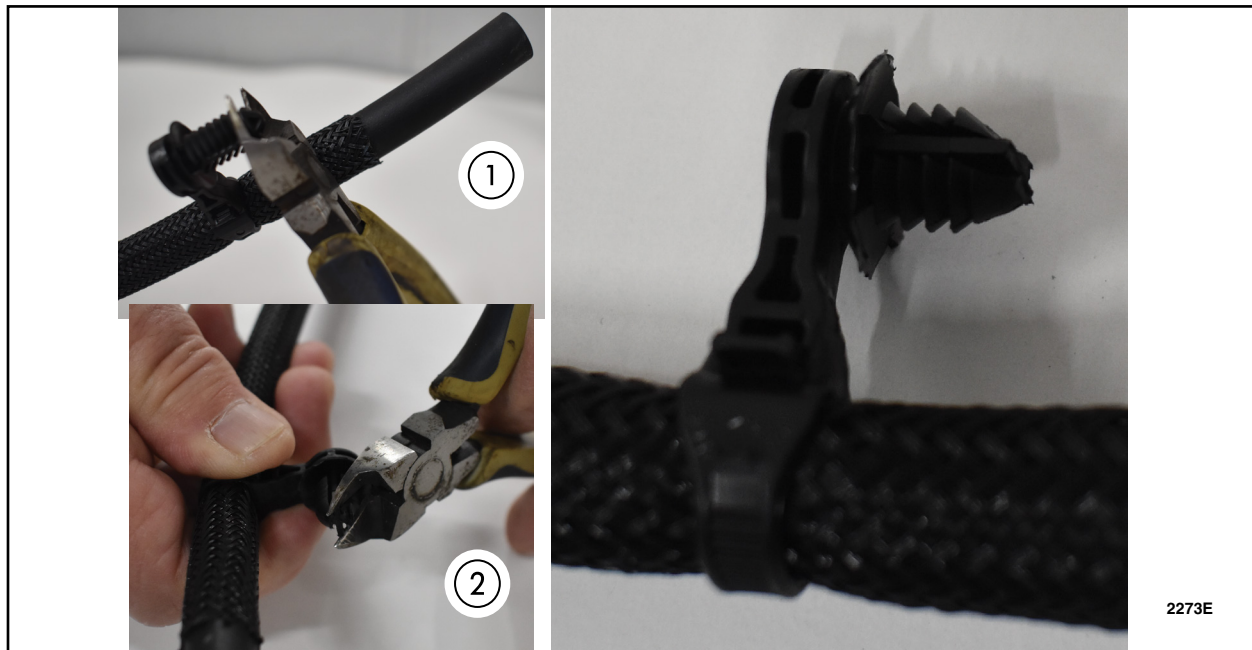

FIGURE 5
8. Cut the tip from fir tree fastener at the end of the tube. Trim the sides of the top 2 barbs at a 45-degree angle on the fir tree fastener to more easily allow fitment through the subframe hole. See Figure 5.